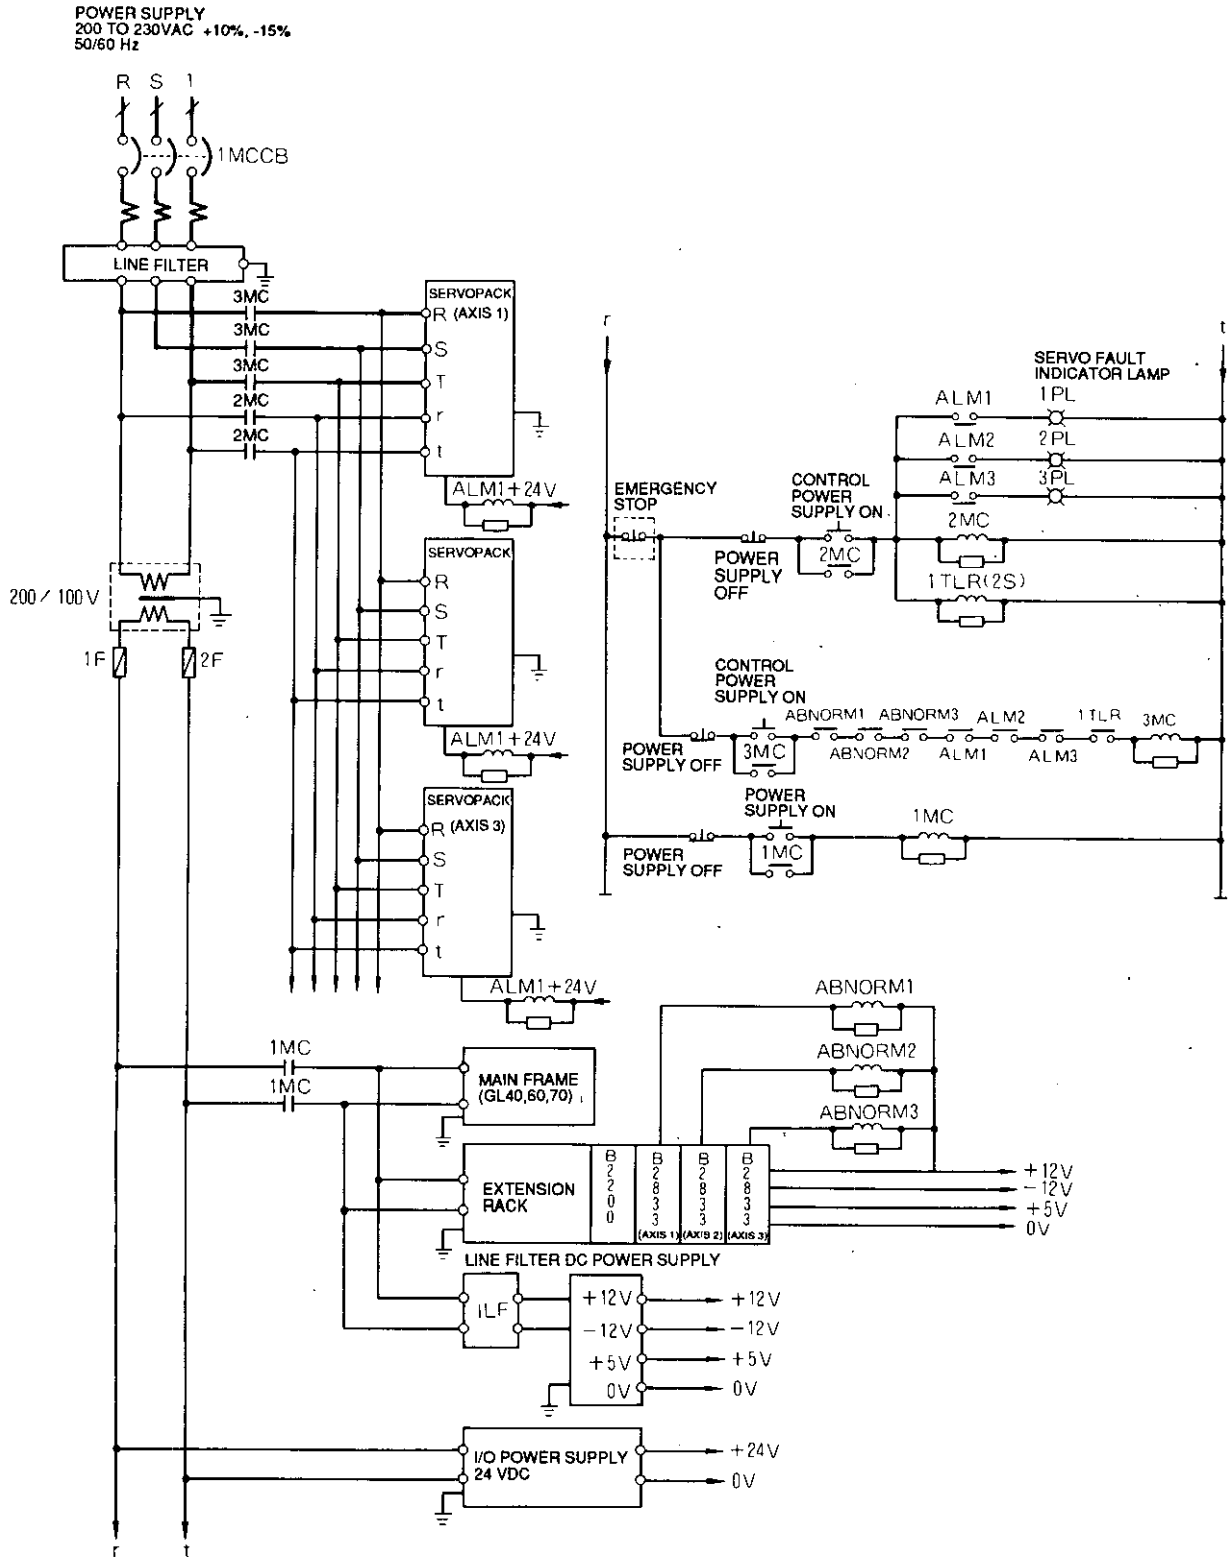

Fig. 6.2 Typical Connection of Power Supply ON Sequence
(1) Typical Power Supply ON Sequence Connection (Fig. 6.2)
(2) Wiring of Protective Devices